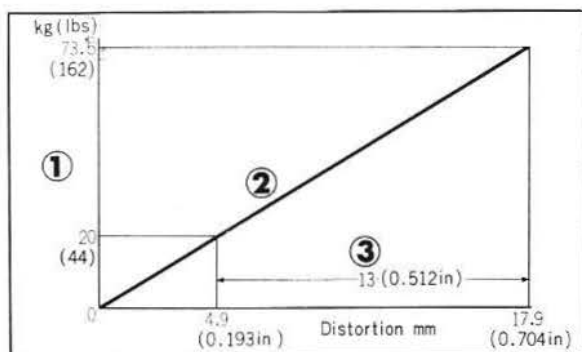

Fig. 4-11 ① Load kg. ② Spring rate
5. Front cushion characteristic. (Fig. 4-11)